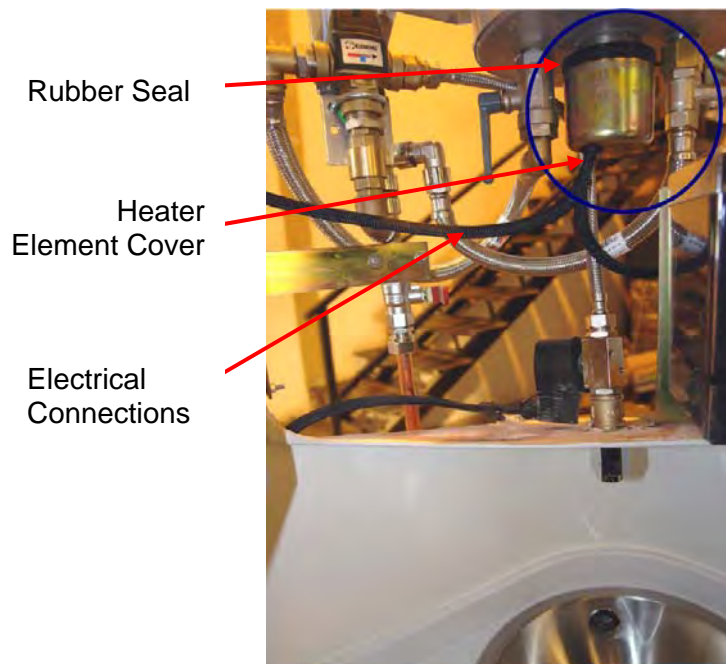

Figure 2: Water Heater Installations
- 4.1 Disconnect the heater element electrical connections (see Figure 2).